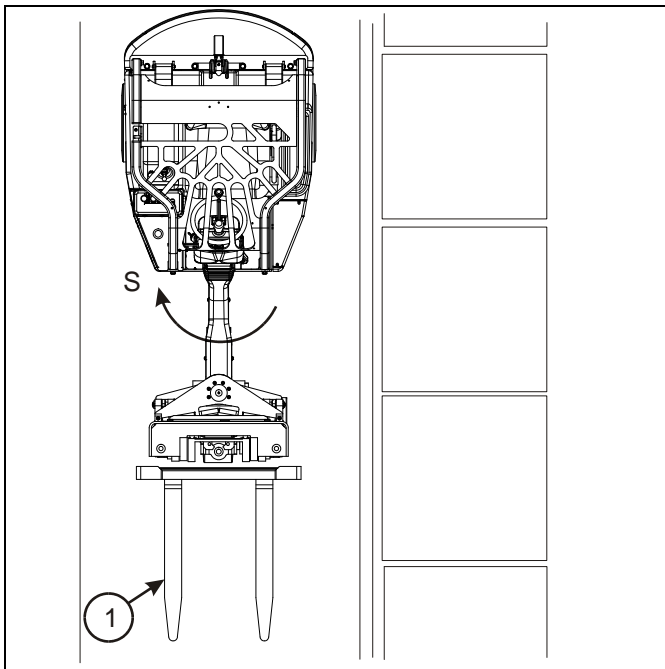

Figure 4-25: Backing Away from the Load
11. Shift into reverse and slowly back out of the load as you turn the steering wheel to keep the forks straight. See Figure 4-25.
12. When the front right fork clears the rack, stop backing and turn the steering wheel to straighten out the forks so they are parallel with the body of the truck. Item 1 - See Figure 4-25.